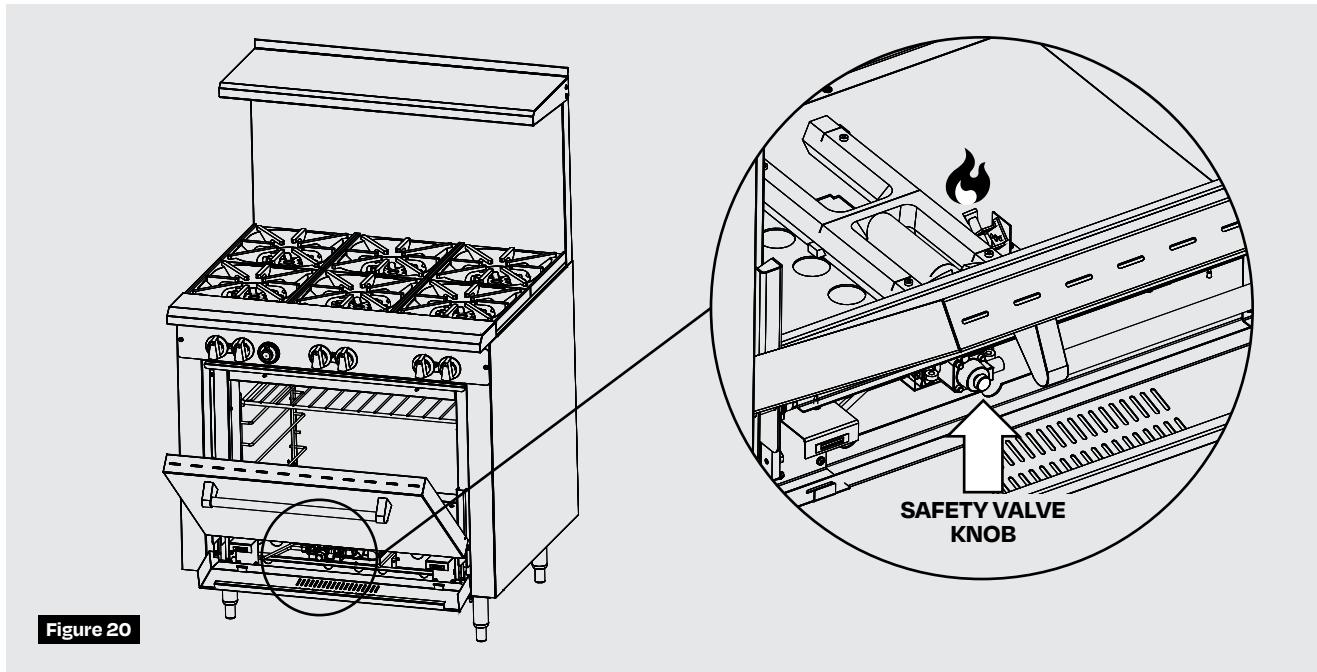

Figure 20
5. Press and hold the safety valve knob for a few seconds and manually light the pilot. Then, hold the safety valve knob for one (1) minute. **(Figure 20)**